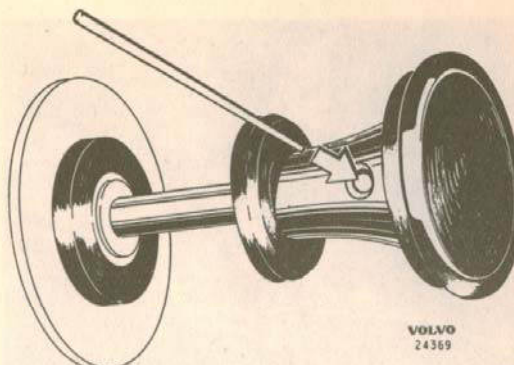

Fig. 10-71. Removing the pull button
2. The pull button is removed by pressing in the locking pin with a suitable tool after which the button can be pulled out. Fig. 10-71.